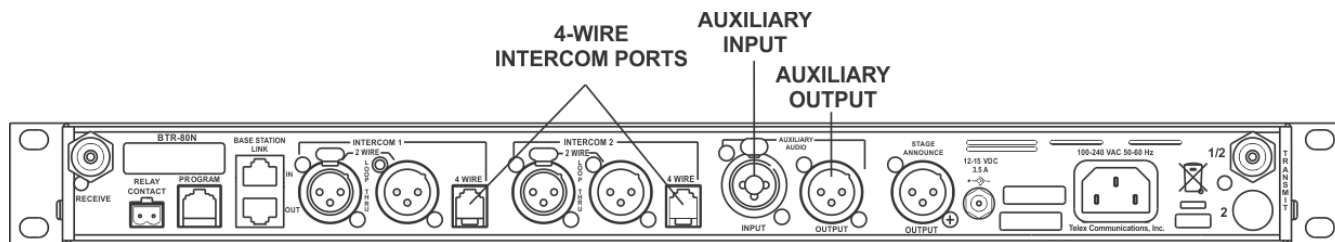
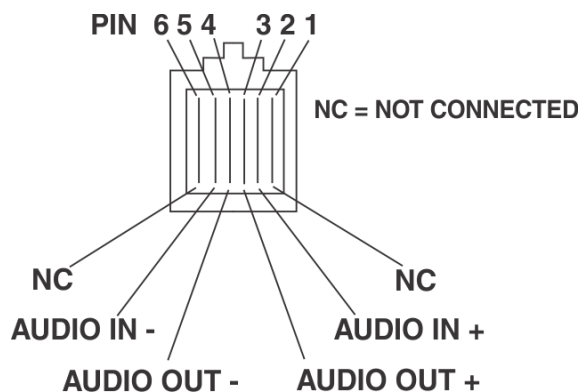

FIGURE 22. BTR-80N Rear View
FIGURE 23. Pinout of the 4-Wire Jack
The BTR-80N can connect to two (2) 4-wire audio intercom systems. These 6-pin modular jacks (RJ-11) are designated 4-wire under intercom 1 and 2 titles on the rear panel. (See Figure 22). The jack’s pinout is shown in Figure 23.